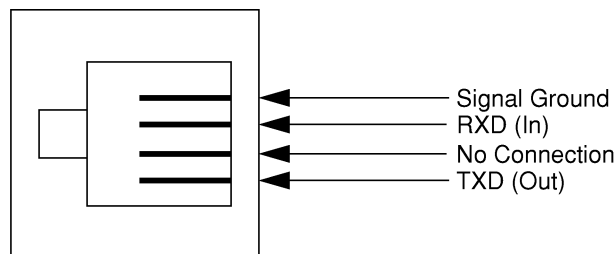

Figure 2-5 Pin Assignments for the 2555/A's Maintenance SCP RJ-11 Jack
- 2.21 The Maintenance SCP can only be accessed via an RJ-11 jack located on the front panel of the 2555/A Alarm and Access Module. The pin assignments for this jack are shown in Figure 2-5.